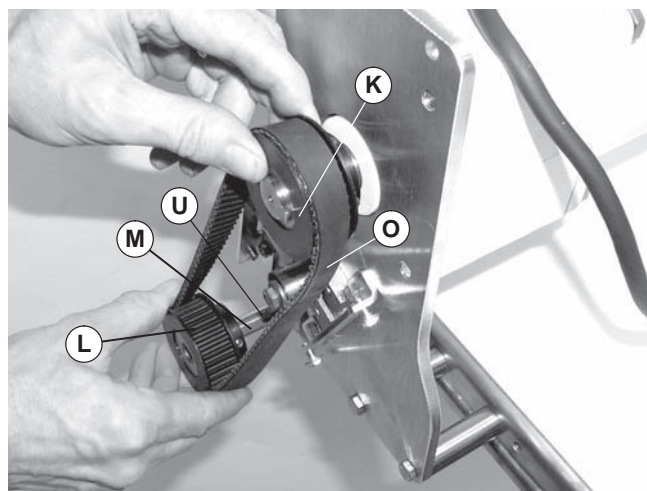

Figure 5
4. Install key (Figure 5, item M) on conveyor input shaft (U).
6. Wrap timing belt (Figure 5, item O) around driven pulley (L) and drive pulley (K). Install driven pulley (L) on conveyor input shaft (U).